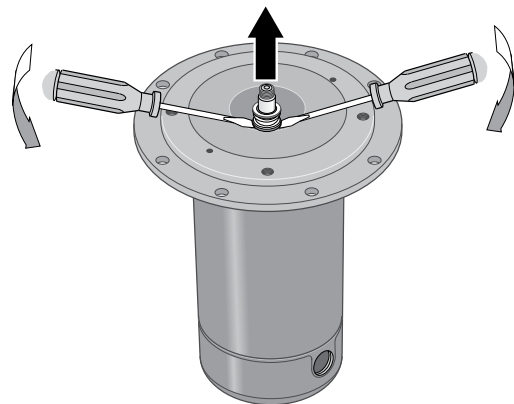

Figure 17 – Remove Seal plate
3. Remove rotating half of seal by placing two screwdrivers under seal ring and **carefully** pry up (Figure 17).